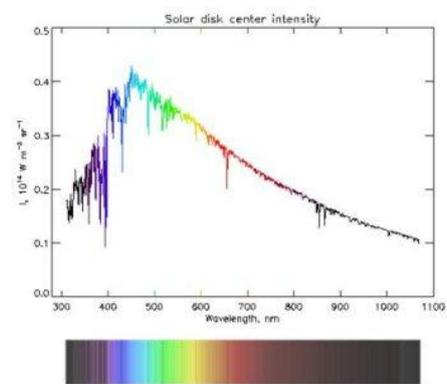

Figure 2: Question 3
3. At 5700 K the Sun radiation from the Sun peaks in blue-green light (Figure 2). Why doesn't the Sun look blue-green?